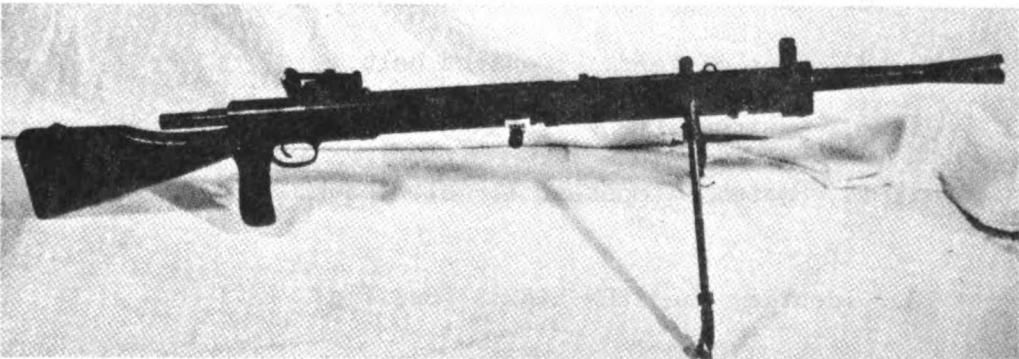

Figure 10
10. Identify The RP-46. (See fig. 10.)